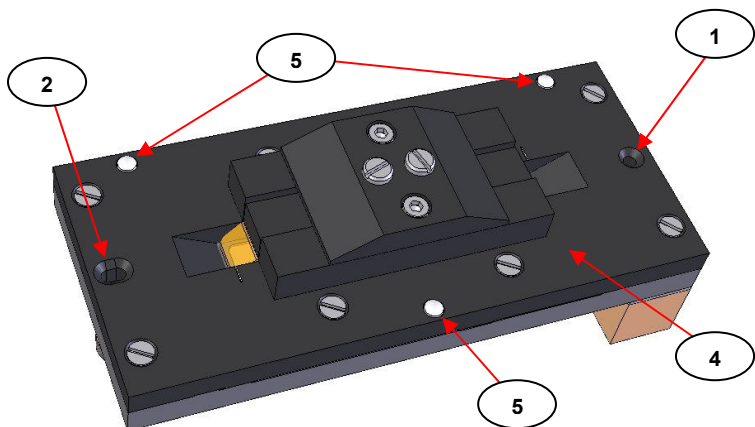
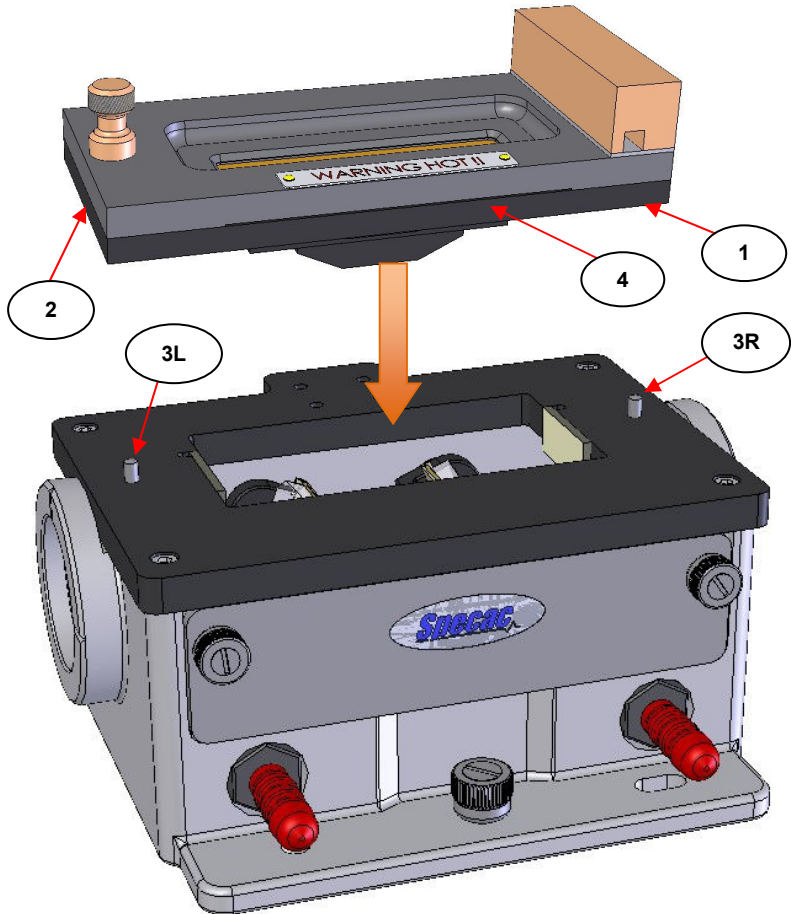

Fig 2. Round and Slot Location Holes on Underside of Gateway™ ATR Electrically Heated Trough Top Plate
Fig 3. Fitting of Gateway™ ATR Electrically Heated Trough Top Plate to the Gateway™ Optical Unit
The Gateway™ ATR Electrically Heated Trough Top Plate fits onto the top of the Gateway optical unit via alignment of the round hole (1) and slot hole (2) on the underside of the Top Plate over the two fixing location pins (3) on the optical unit. (See Fig 2 and Fig 3.)